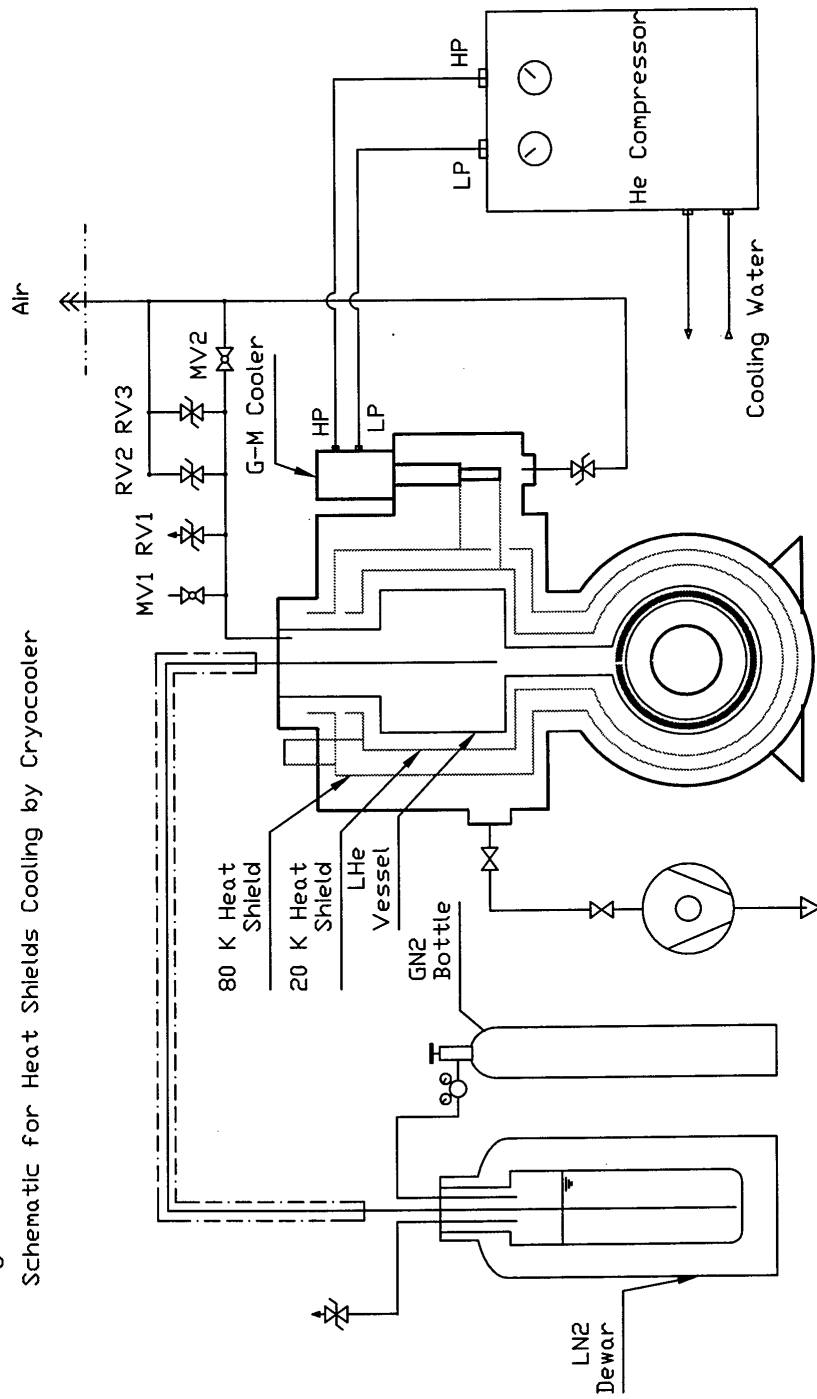

Figure 4
- 5.5.1 Connect LN2 dewar to LN2 shield-cooling-port according to Fig. 4.
- 8.5 Figure 4. Schematic for heat shield cooling using LN2.